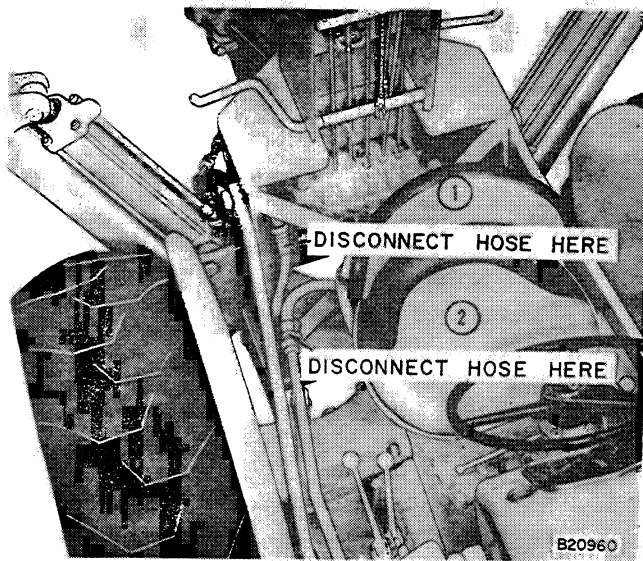
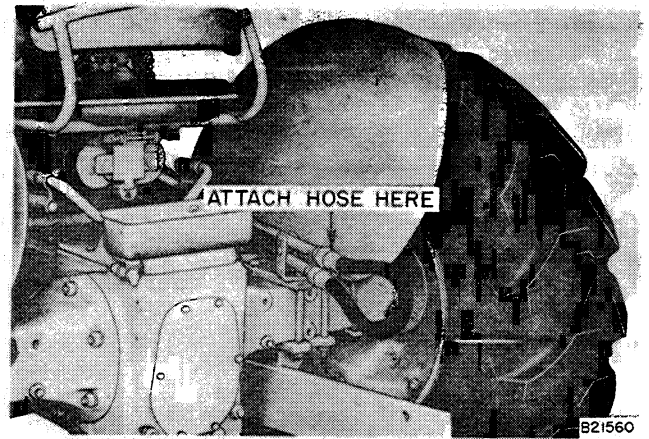

Figure 28 - Hose Connections
Figure 30 - Hose Connections at Tractor
5. REFERRING TO FIGURE 28: Disconnect hose at valve and return hose at tube. Connect pressure hose to return tube to complete the circuit, see Figure 30.